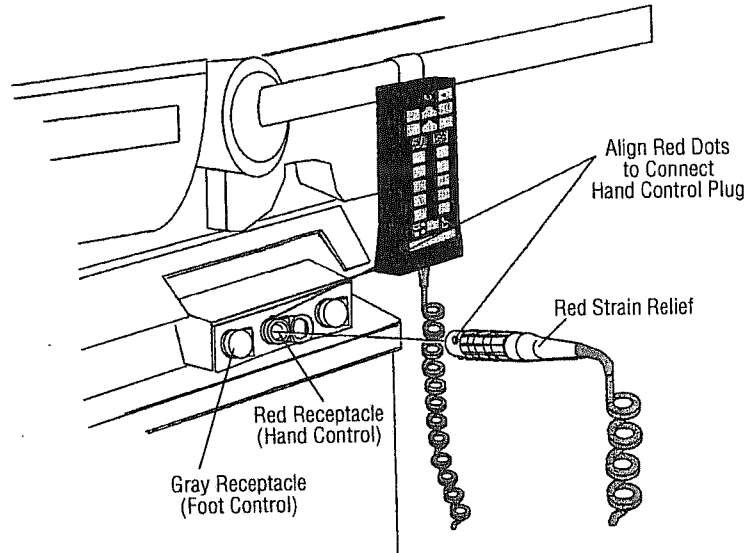

Figure 3-2A. Hand Control Connection for Standard 3085 Table
- **Standard 3085 SP Tables:** Align the red dot on the red plug of the hand control cord with the red dot of the red receptacle on the table and push into connected position (see Figure 3-2A).